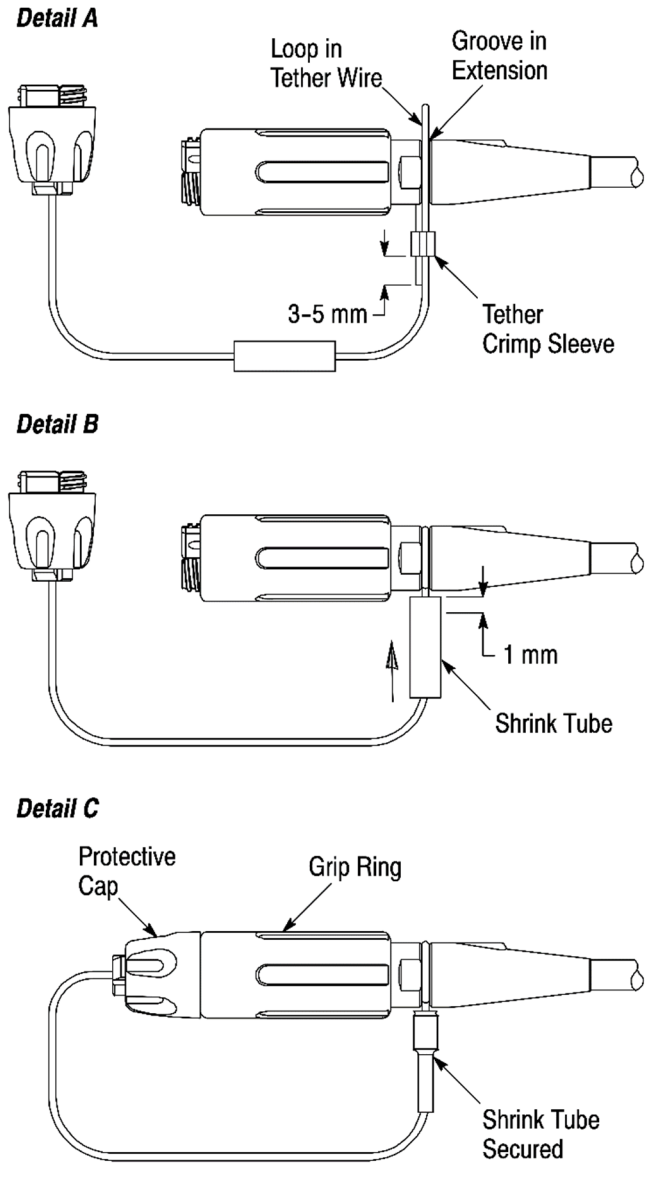

Figure 15
1. Loop the tether wire around the groove in the extension, and feed the end of the tether wire into the open end of the tether crimp sleeve. Pull approximately 3 to 5 mm of the tether wire through the tether crimp sleeve. See Figure 15, Detail A.
3. Slide the shrink tube over the tether crimp sleeve until it hangs over the top of the tether crimp sleeve by 1 mm. See Figure 15, Detail B.
4. Using the heat gun, and starting at the top of the shrink tube, apply heat to the shrink tube until it shrinks evenly and is secure. Thread the protective cap onto the grip ring. Finger-tighten the cap. See Figure 15, Detail C.